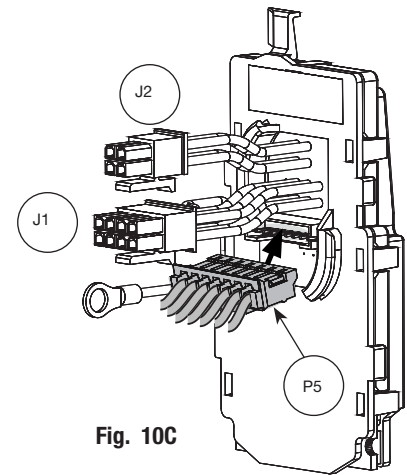

Fig. 10C
- a. Connect P5 (7 Pin Connector) from reader board to J5 on interior escutcheon PCB assembly (Fig. 10C).